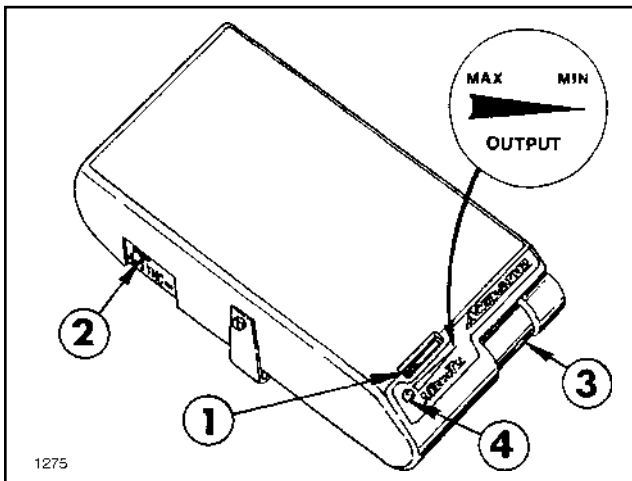

FIG. 1
There are two (2) brake adjustments on the Controller. See FIG. 1.